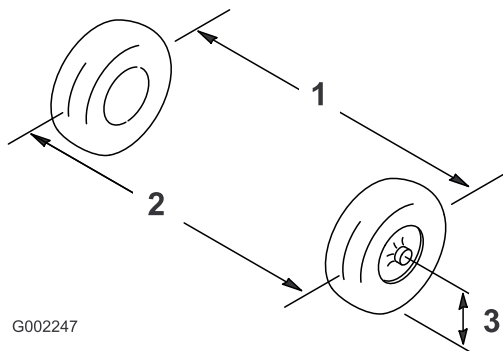

Figure 135
2. Measure the distance between of the front tires at the axle height at the front and rear of the front tires (Figure 135).